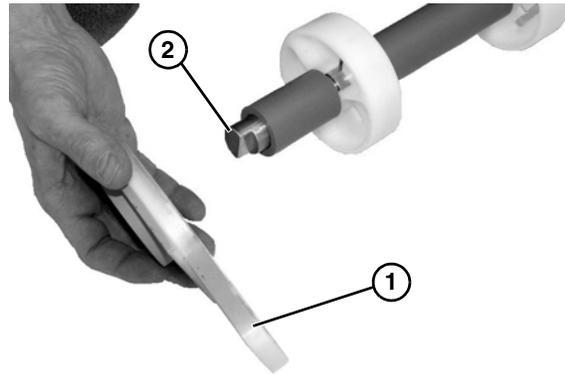

Figure 47
4. Slide off idler head plate (Figure 47, item 1) from shaft (Figure 47, item 2).